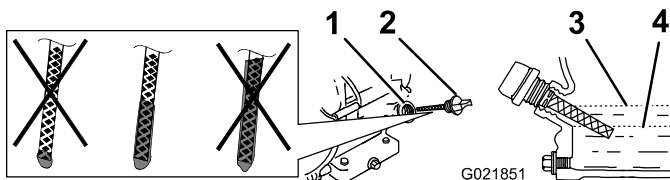

Figure 10
4. Clean around the dipstick (Figure 10) so that dirt cannot fall into the fill hole and damage the engine.
6. Insert the dipstick fully into the fill hole, but **do not screw it in** (Figure 10).
7. Remove the dipstick again and look at the end. If the engine oil level is low, slowly pour only enough oil into the fill hole to raise the level to the Full mark on the dipstick (Figure 10).